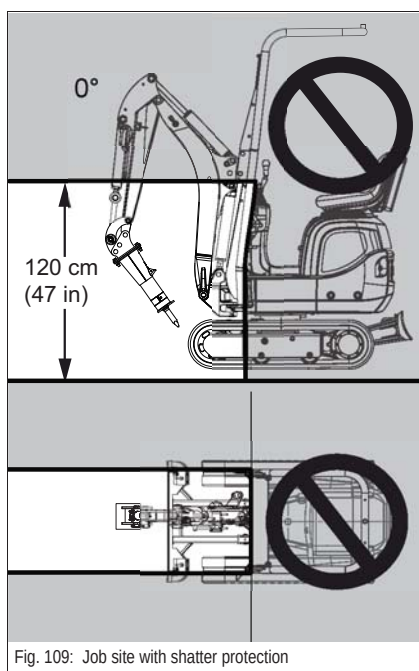

Fig. 109: Job site with shatter protection
- Pay attention to the restricted work range (see fig. 109).